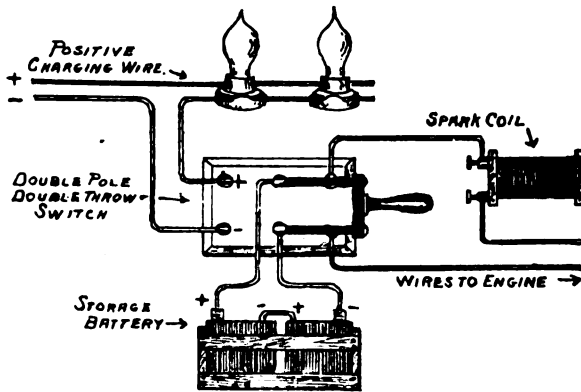

Fig. 81.
**STORAGE BATTERY CONNECTIONS.**—Fig. 81 shows method of connecting storage battery to spark coil and to operate ignition in engine. Also shows how to connect with incandescent lamp circuit to recharge. The current from this incandescent lamp circuit must be **direct** current and not **alternating**.